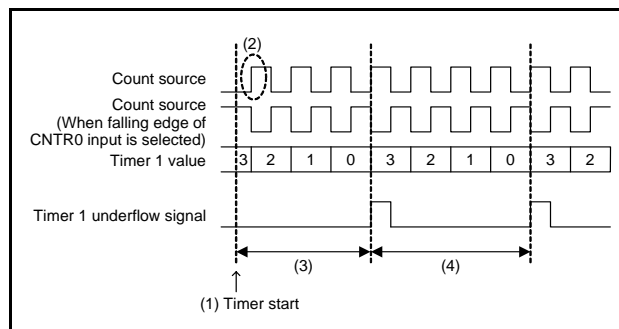

Fig 33. Timer count start timing and count time when operation starts
Count starts from the first rising edge of the count source (2) in Figure 33 after prescaler and timer operations start (1) in Figure 33.
Time to first underflow (3) in Figure 33 is shorter (for up to 1 period of the count source) than time among next underflow (4) in Figure 33 by the timing to start the timer and count source operations after count starts.